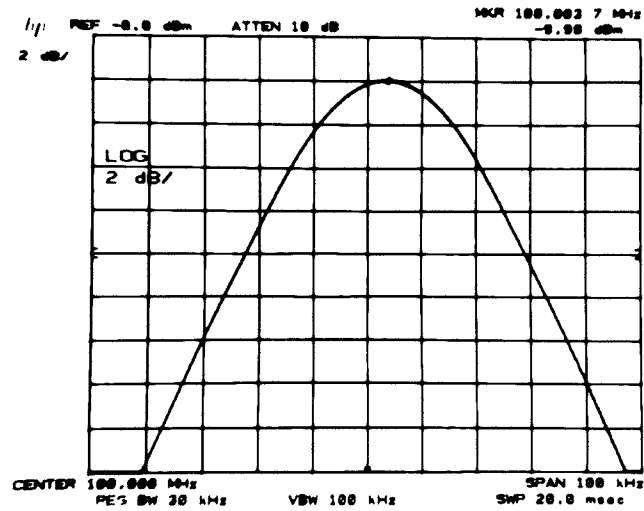

Figure 4-10. Log Scale Switching Uncertainty Measurement
6. Step up through the log scales with  . At each step, press MARKER  , then record the marker amplitude in Table 4-8. Refer to Figure 4-10.